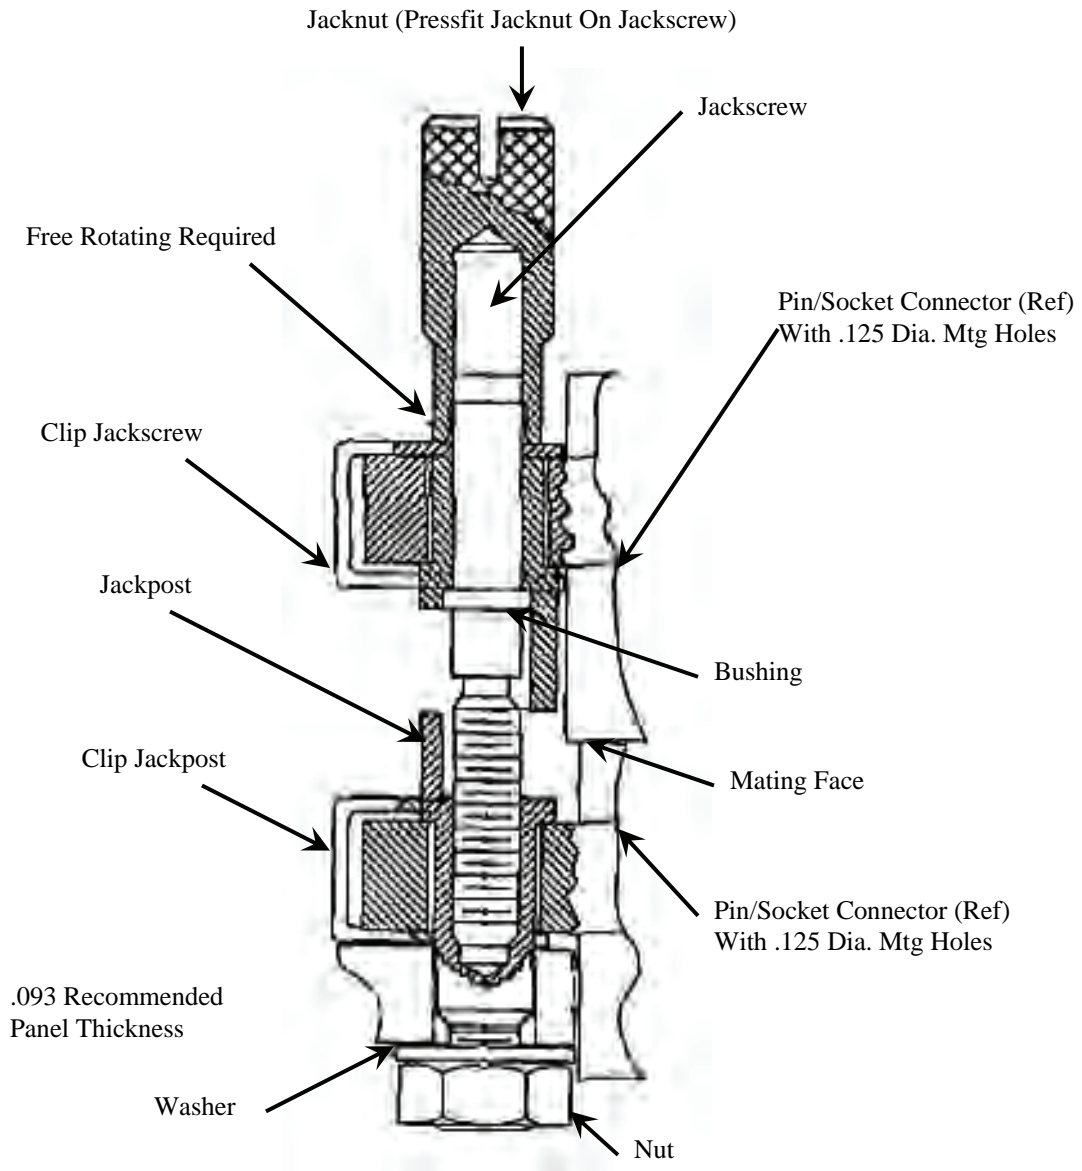

Figure 3. Jackpost/Jackscrew Assembly Part Number 320-9511-000
7. Jackpost/Jackscrew Assembly. The 9 thru 51 pin connectors use jackpost/jackscrew assembly (Figure 3).